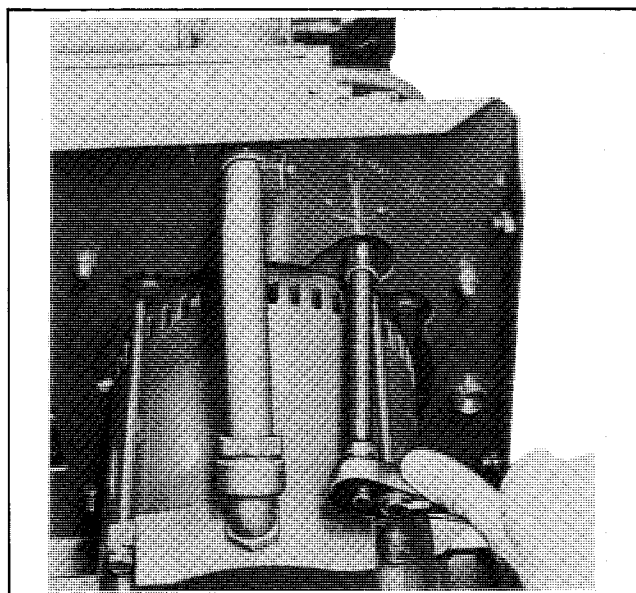

Figure 5. Oil Drain Location
Change the oil after the first two (2) hours of operation and at 25 hour intervals thereafter. Change more frequently if operating under dirty, dusty conditions. If possible drain oil while hot. To drain, remove oil drain plug with a 3/8 in. (8 point) hex socket wrench. Oil drain plug is located underneath mounting tray. Figure 5. Place a container underneath drain plug to catch draining oil. Replace plug after oil has completely drained. Oil capacity is 1.2 quarts (1.08 litres). Refer to Oil Selection chart following for correct oil type.